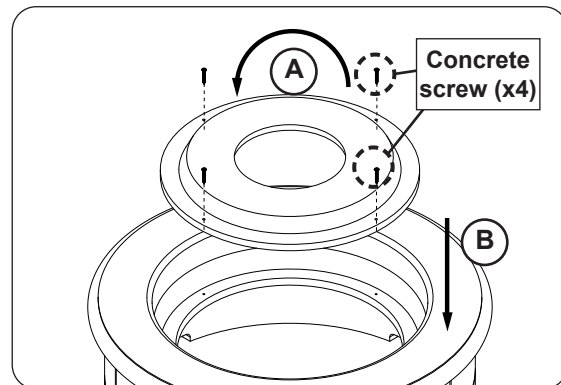

Fig. 29-2 Flip and install refractory panel
2. Flip the refractory panel and align the pilot holes. Reinstall the 4 concrete screws (see Fig. 29-2).